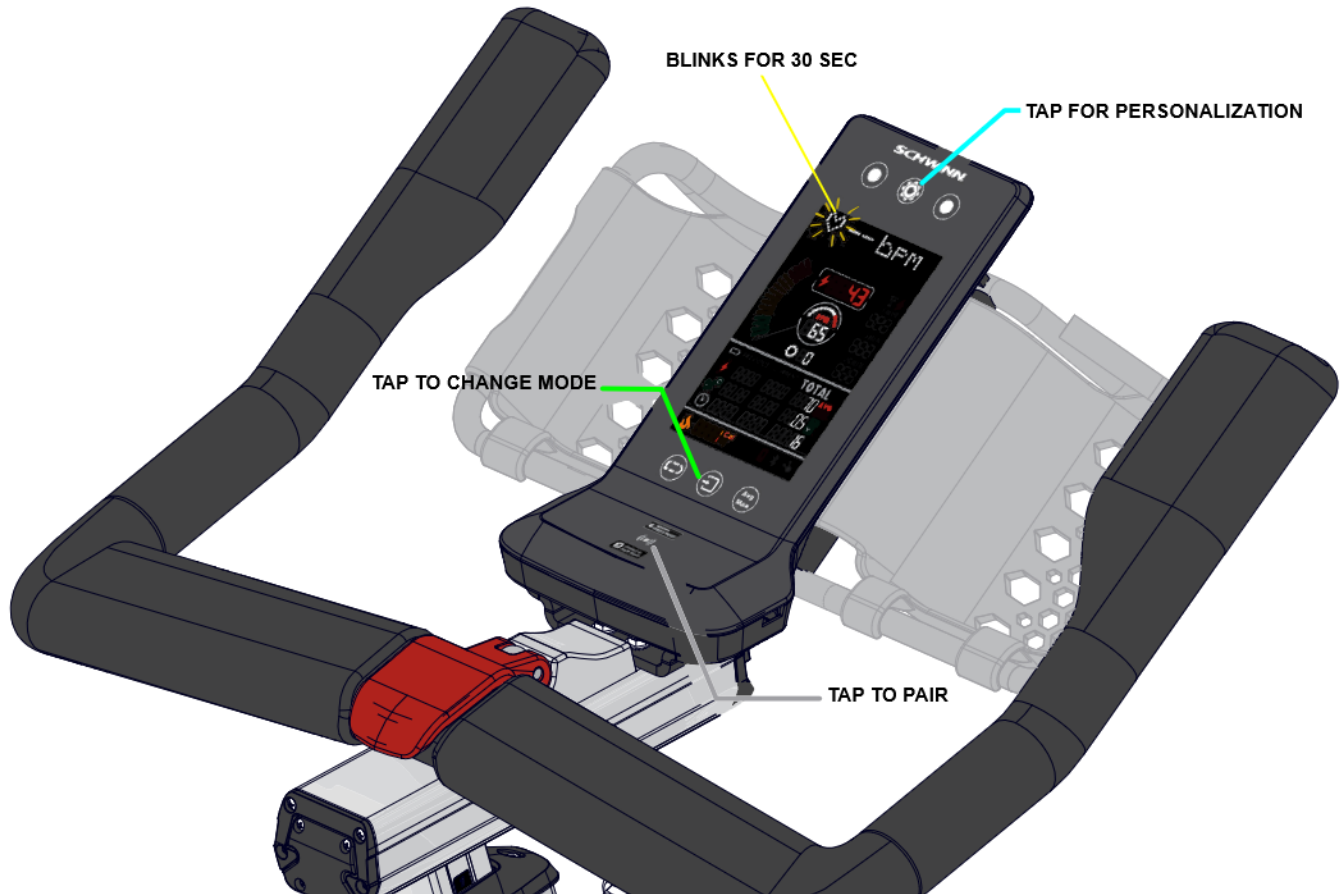

Fig. 35 Shown on Wake
1. Tap the  button once to personalize FTP. Screen shown on Fig. 35